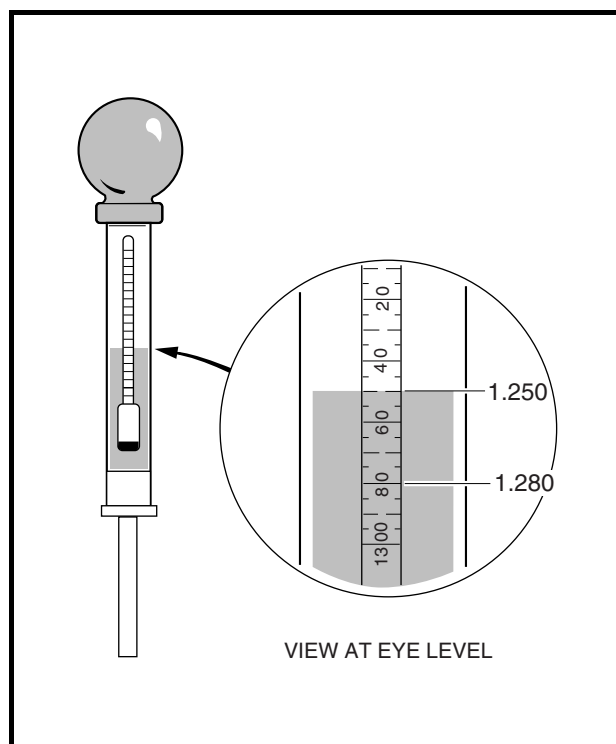

Figure 13-8 Hydrometer
5. Hold the hydrometer vertically, ensuring that the float is not touching the sides of the barrel. Hold the hydrometer at eye level and read the scale at the level of electrolyte (**Figure 13-8, Page 13-10**).